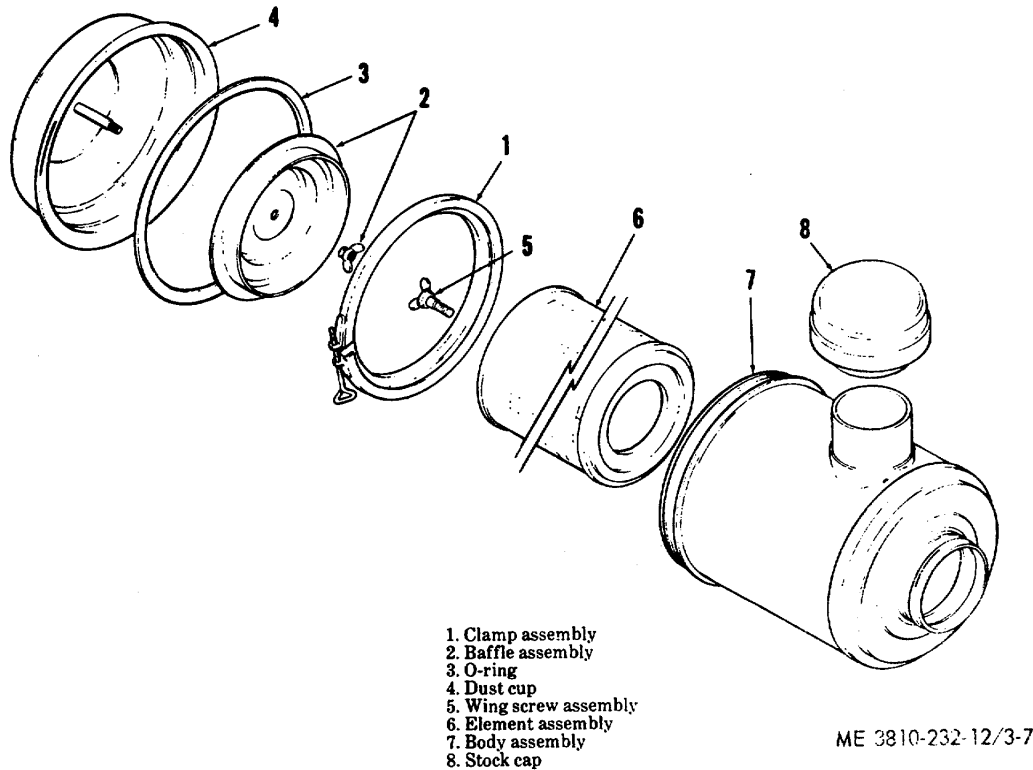

Figure 3-7. Carrier air cleaner service (model 2385).
(1) Loosen clamp assembly (1, fig. 3-7) and remove dust cap (4).